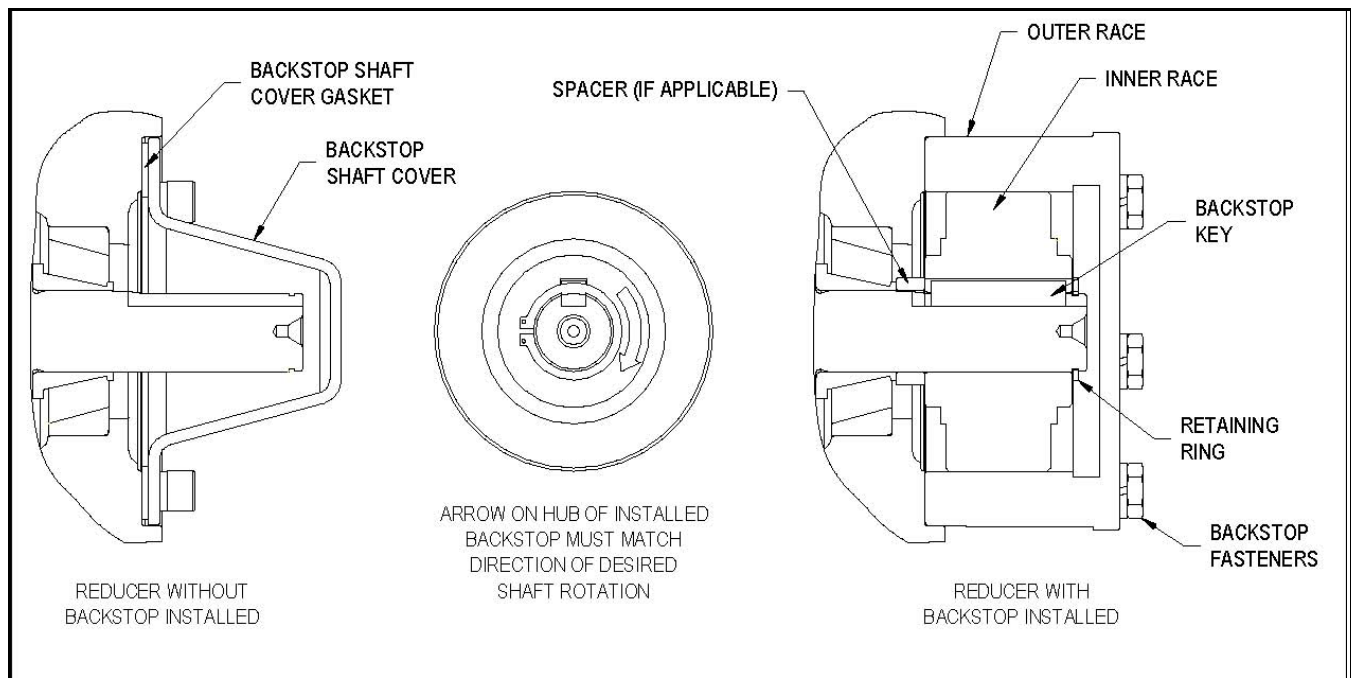

Figure 5.2
1. Remove backstop shaft cover and gasket, shown in Figure 5.2. These parts will not be reused. This cover is directly opposite the extended end of the input shaft.